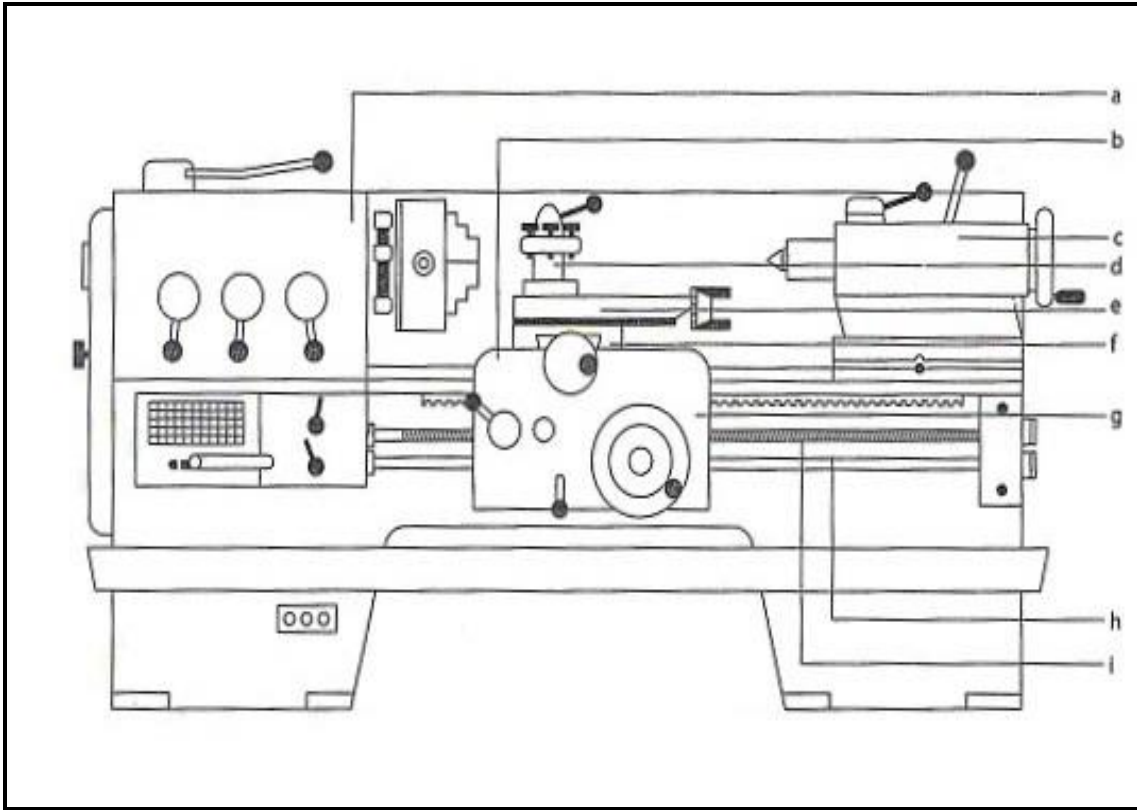

FIGURE 2
6.1 FIGURE 2 below shows a centre lathe. Write only the answer next to the letters (A–I) in the ANSWER BOOK. ★